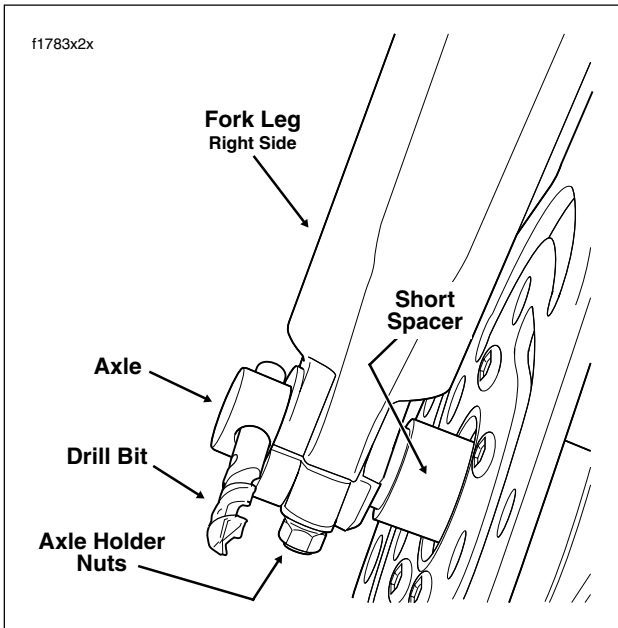

Figure 2-8. Align Front Wheel
7. Insert 7/16 inch drill bit into hole in axle. See Figure 2-8.